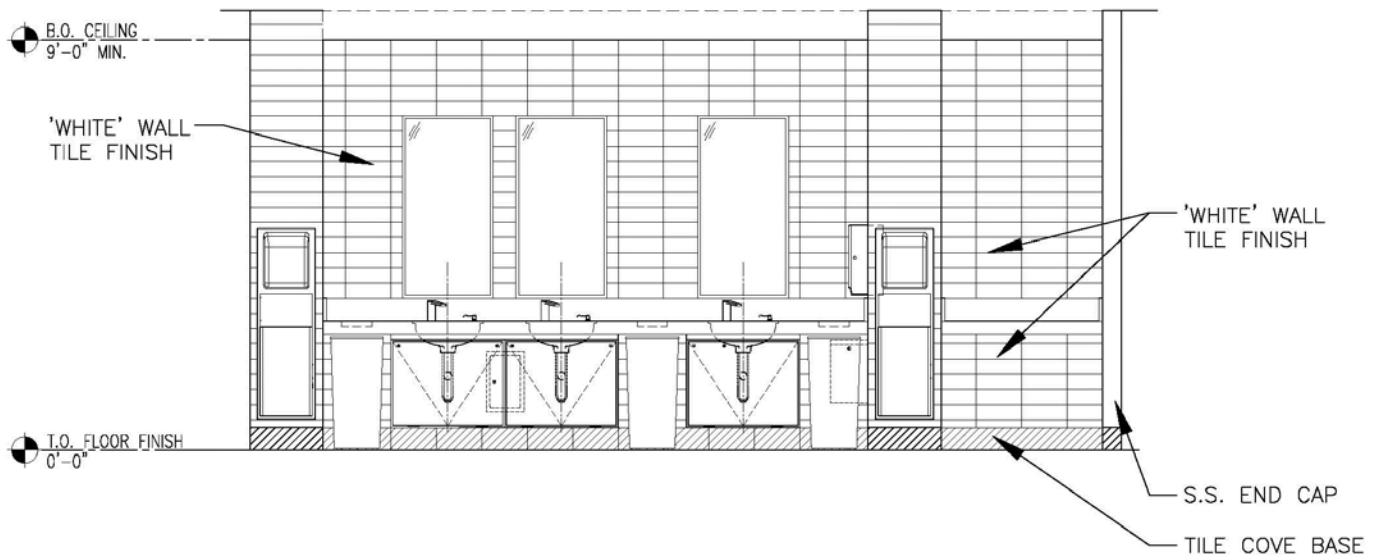

Figure 1.9.2C
- I. Under exceptional circumstances and only when approved by LAWA, one (1) trash drop will be provided for every three (3) wash stations. Individual stainless steel framed mirrors (24"x48") will be provided as shown in *Figure 1.9.2C* in new construction or sized and mounted from top of splash in restroom renovations.